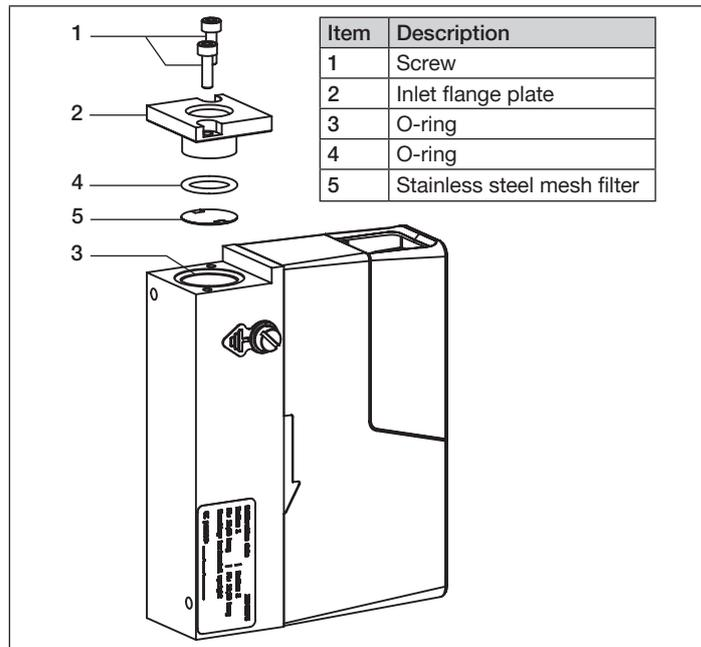

Fig. 25: Cleaning the stainless steel mesh filter
- Remove the inlet flange plate [2] by loosening the two screws [1] (see Fig. 25).
- Install the parts in the correct order (see Fig. 25).